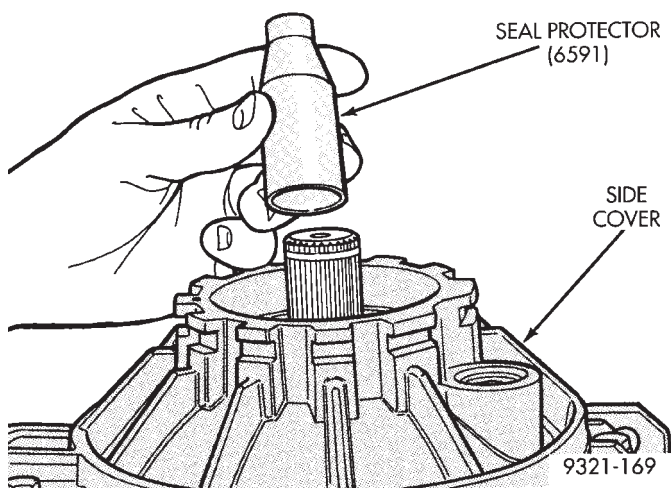

Fig. 339 Seal Protector
(54) Install seal protector (special tool 6591) on shaft (Fig. 339).